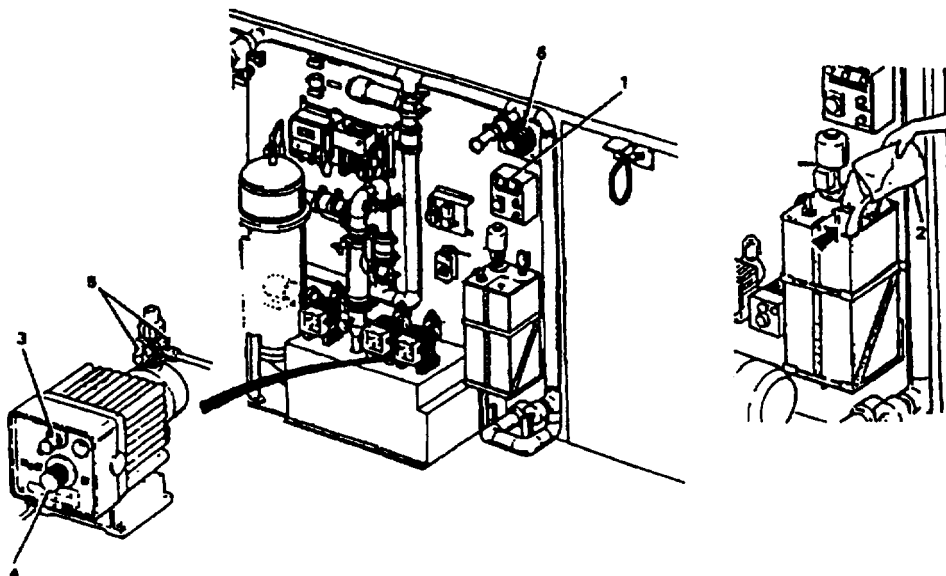

Figure 2-46. Initial Hypochlorite Set-Up
- (3) Initial Hypochlorite Set-Up (Figure 2-46).